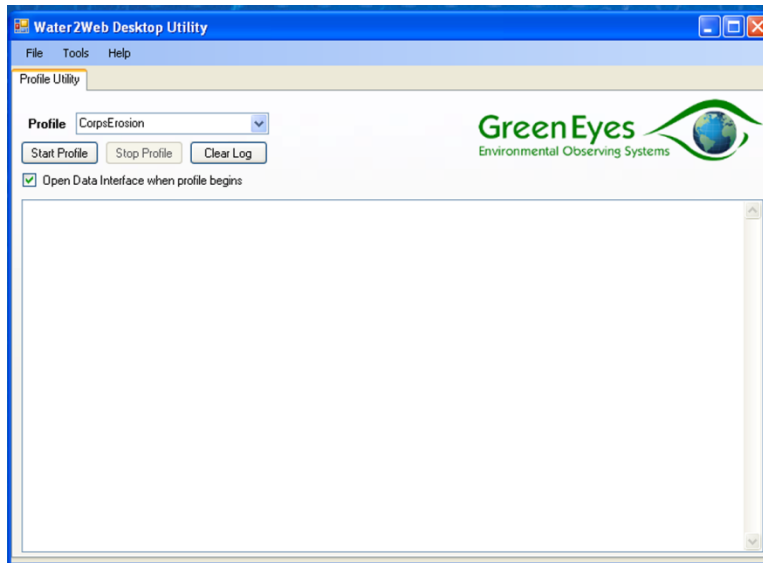

Figure 2.2.1 - W2W (predecessor to ComScript) Desktop Utility screen to open profile.
2.2.3 Preparing to run program. Start the ComScript application and select the your “Erosion” profile from drop down box for your application; e.g. “Erosion”. Check “Open Data Interface when profile begins” box (see fig 2.2.1).
- 2.4.3 ComScript ready.** Both ComScript and gnuplot are installed. The directory structure matches ComScript profile and plt files. Start the ComScript application (“ComScript GUI.exe”). Select the correct “profile” from the drop down menu for your application, e.g. “Erosion2p1s”. Check “Open Data Interface when profile begins” box (see fig 2.2.1).